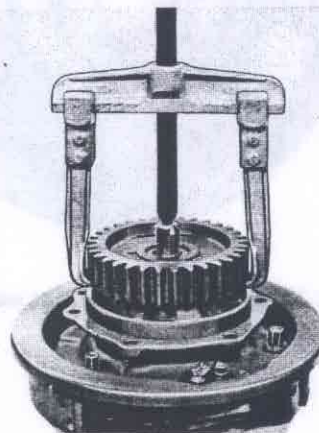

Fig. 77-6. Removing the gear wheel
2. Pull off the gear wheel (5) with the Kukko standard jackknife 20-2, see Fig. 77-6. Lift off the hub (10) together with the brake backing plate.